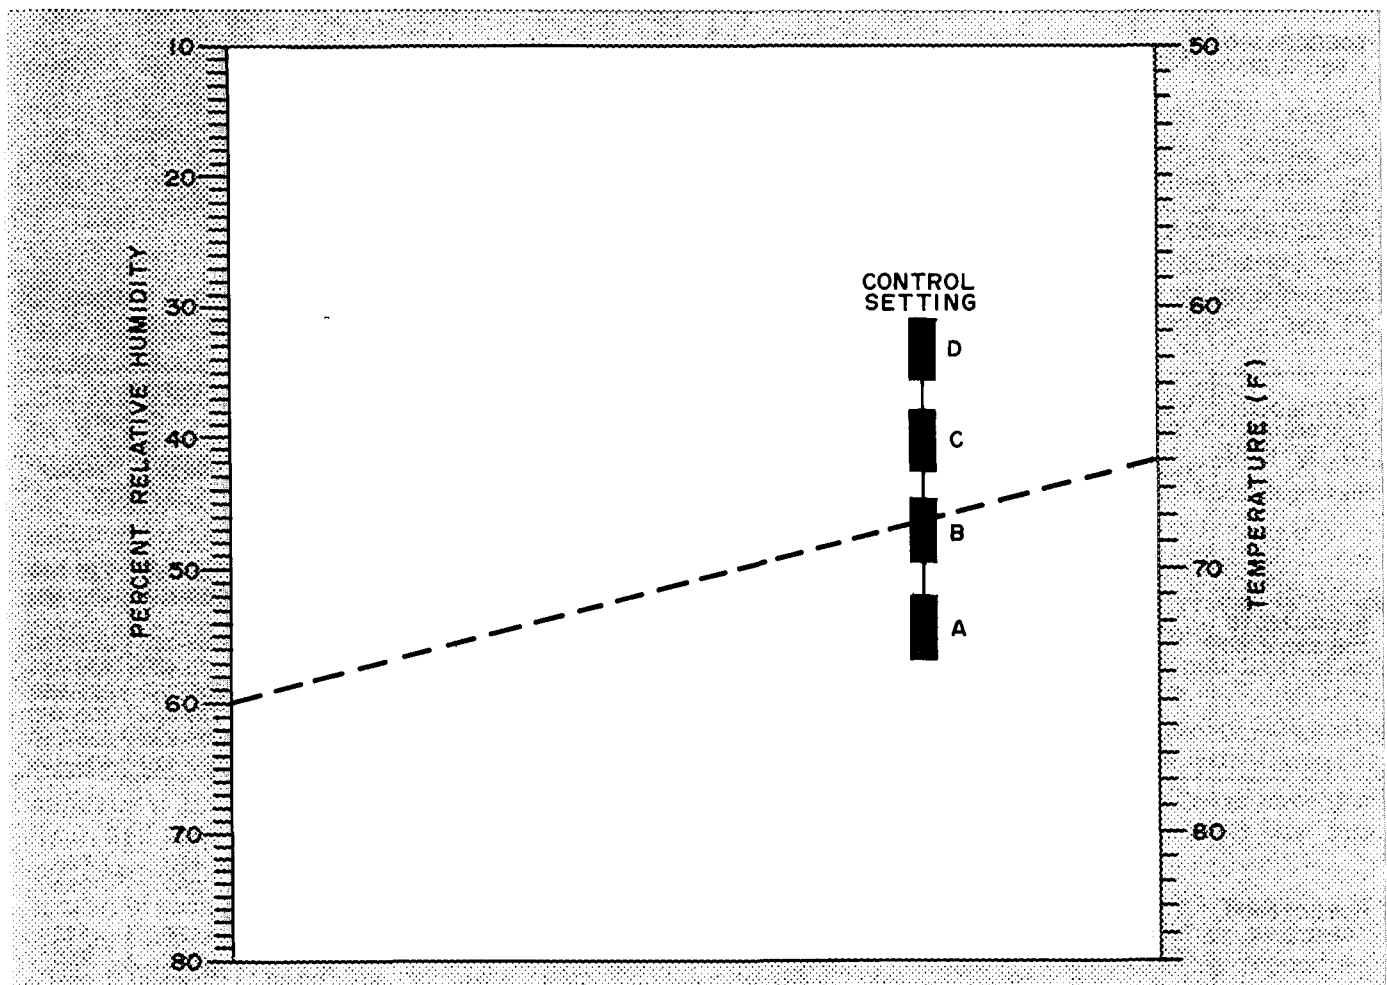

Fig. 10 — Nomograph for Determining Enthalpy Control Setting
2. In Fig. 10, locate the percent humidity on the left-hand scale and the dry-bulb temperature on the right-hand scale. Example in Fig. 10 uses 60% RH and 66 F.
4. Adjust the enthalpy control dial to the setting indicated on the control setting scale in Fig. 10.